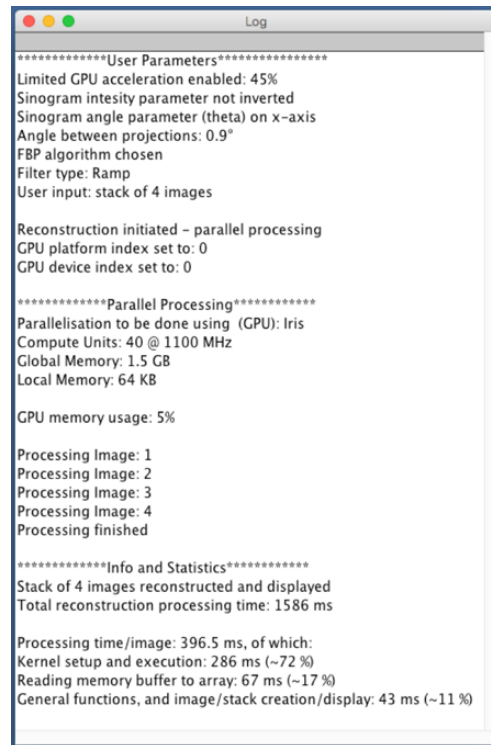

Figure 17: 2D Reconstruction Plugin log with GPU acceleration activated.
3. If the *Acceleration* feature is enabled, the plugin automatically queries the host device driver for a list of available GPU/CPU and uses the first returned GPU/CPU to process the input image/s in parallel, if not manually set. The user is informed of the GPU/CPU and memory being used (figure 17).